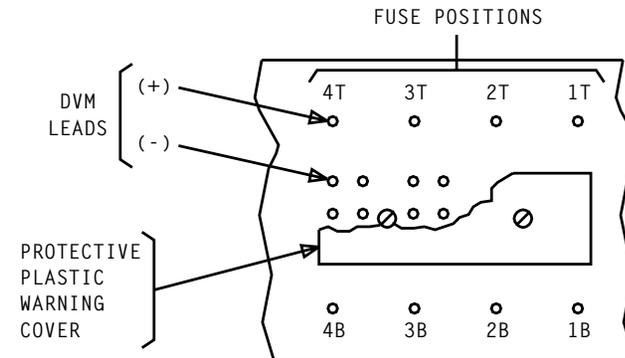

Figure 1 - DVM Connection Location
3. Disconnect common (-) lead of DVM from comb pin location shown in Figure 1
4. Disconnect plus (+) lead of DVM from fuse position at location shown in Figure 1